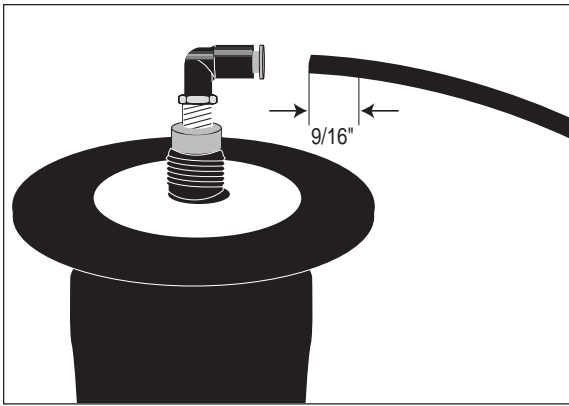

Figure 15
4. Install the inflation valves as shown in Figure 15.
6. Cut off air line leaving approximately 12" of extra air line. Insert the air line into the air fitting. Push the air line into the 90° swivel fitting until it bottoms out ($\frac{9}{16}$ " of air line should be in the fitting) (Figure 15).